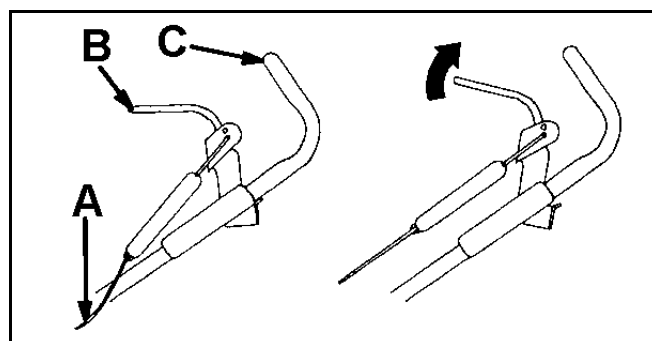

Figure 79
- Move the left side of the control bar back toward the handle until you remove the slack in the cable (Figure 79 and "m-5065" on page 7 - 1).